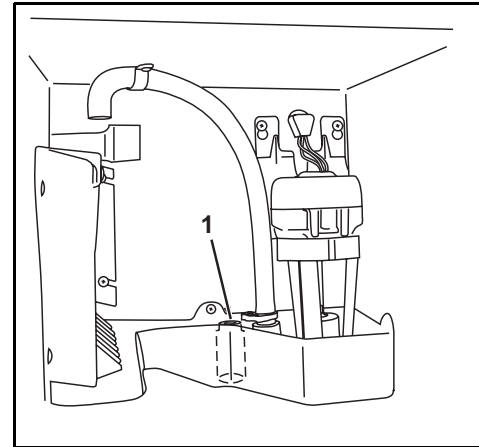

Figure 20
3. Remove the overflow tube by lifting it up while using a slight back and forth motion to loosen it from the drain hole (**Figure 20**). The water in the reservoir will flow down the drain.